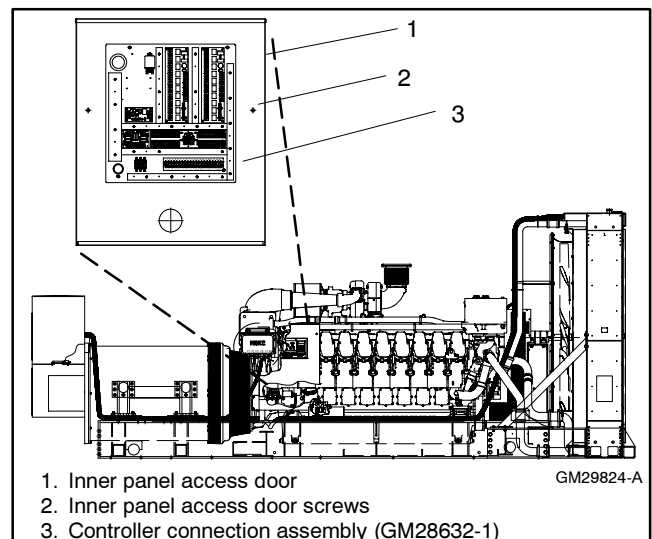

Figure 5 Terminal Block Bracket Mounting in Junction Box (2500/2800 kW)
2.4.3 Attach the controller connection assembly (GM13984) to the junction box bracket studs using six spacers (X-712-9) and nuts (X-70-12). Place the spacers between the controller connection assembly and the mounting bracket. See Figure 5 for the mounting location.